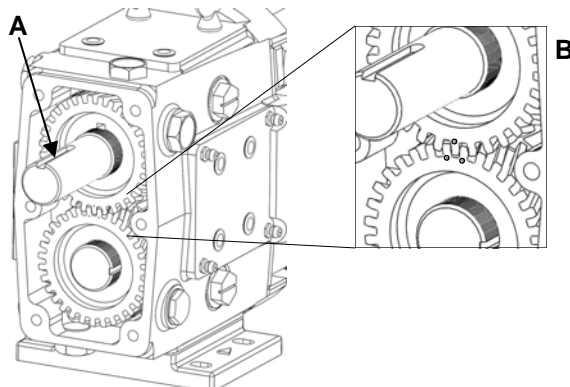

Figure 59: Installing Gears with Correct Timing
8) Once the gear keys are installed, orientate the shafts so that the keyways on the drive shaft are pointing in the 12 o'clock direction (Figure 59, A). Slide the right-handed gear with the single punch mark onto the drive shaft. Slide the second gear with two punch marks on the short shaft. To time the gears, align them so that the single punch mark falls between the two punch marks on the opposite gear (Figure 59, B).